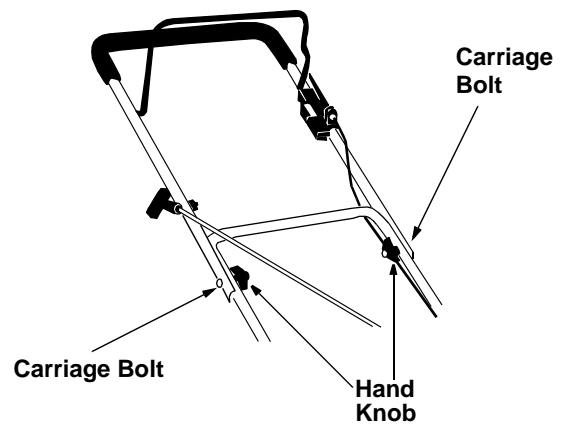

Figure 2
- Pull up and back on the upper handle to raise the handle into the operating position. Make certain the lower handle is seated securely into the handle mounting brackets. Tighten the hand knobs on each side of the handle (carriage bolts must be seated properly on the handle). See Figure 2.